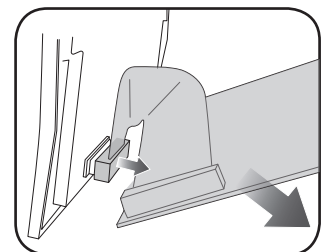

Fig. 2.6
6. Pull outward to disconnect the ribbon cable. (Fig. 2.6)